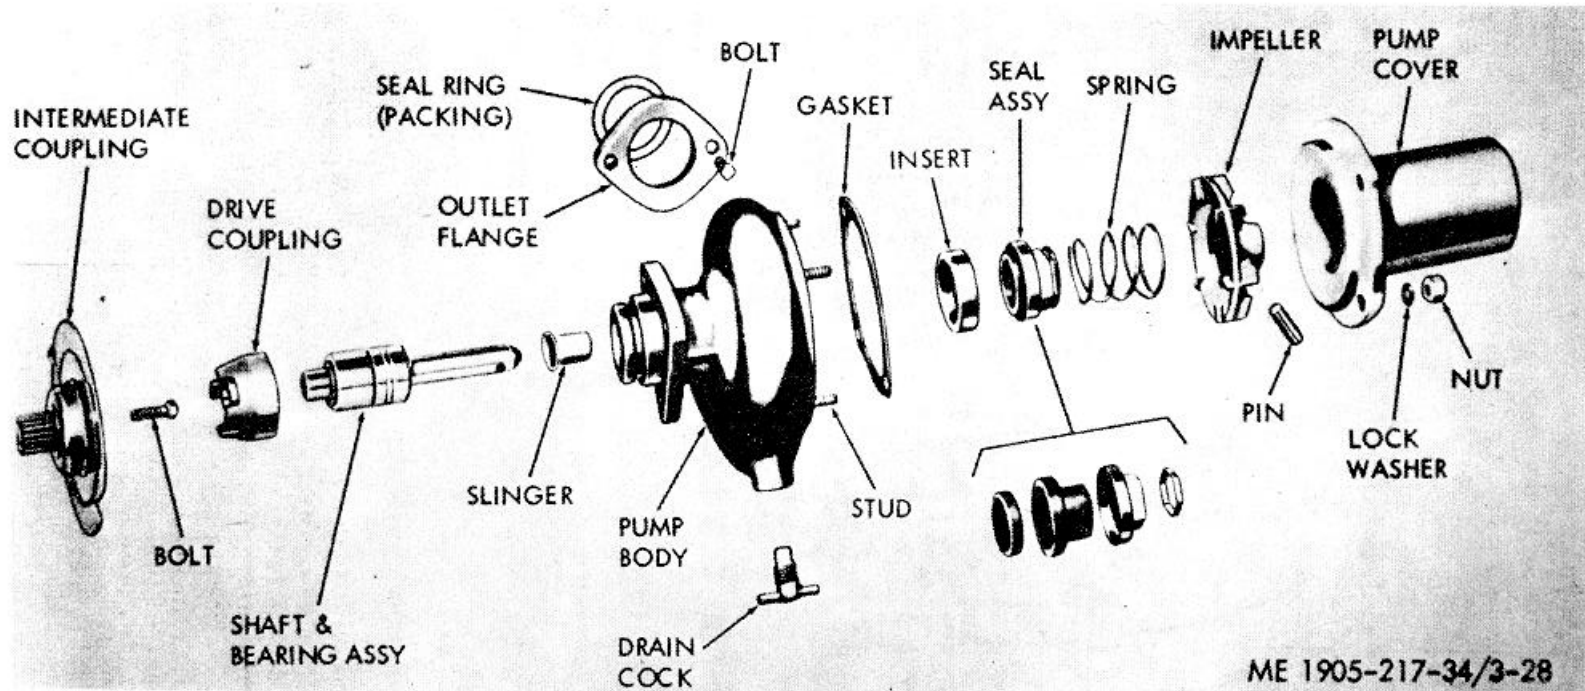

Figure 3-28. Fresh water pump, exploded view.
- (1) Remove the pump cover and gasket (fig. 3-28).
- (2) Support the pump on its mounting flange in an arbor press. Place a short steel rod on the shaft and separate the shaft and bearing assembly from the impeller, seal and pump body.
- (3) Remove the impeller and seal assembly from the pump body.
- (4) If the steel insert is worn excessively, tap or press it out of the pump body.
- (5) Remove the water slinger from the shaft.
- (6) If the impeller was pinned to the shaft, use a punch and hammer, to remove the sheared tapered pin from the shaft and impeller by tapping against the small end of the pin.
- (7) If necessary, remove the pump drive coupling from the shaft using a steel rod clamped in a vise and special tool J 1930.